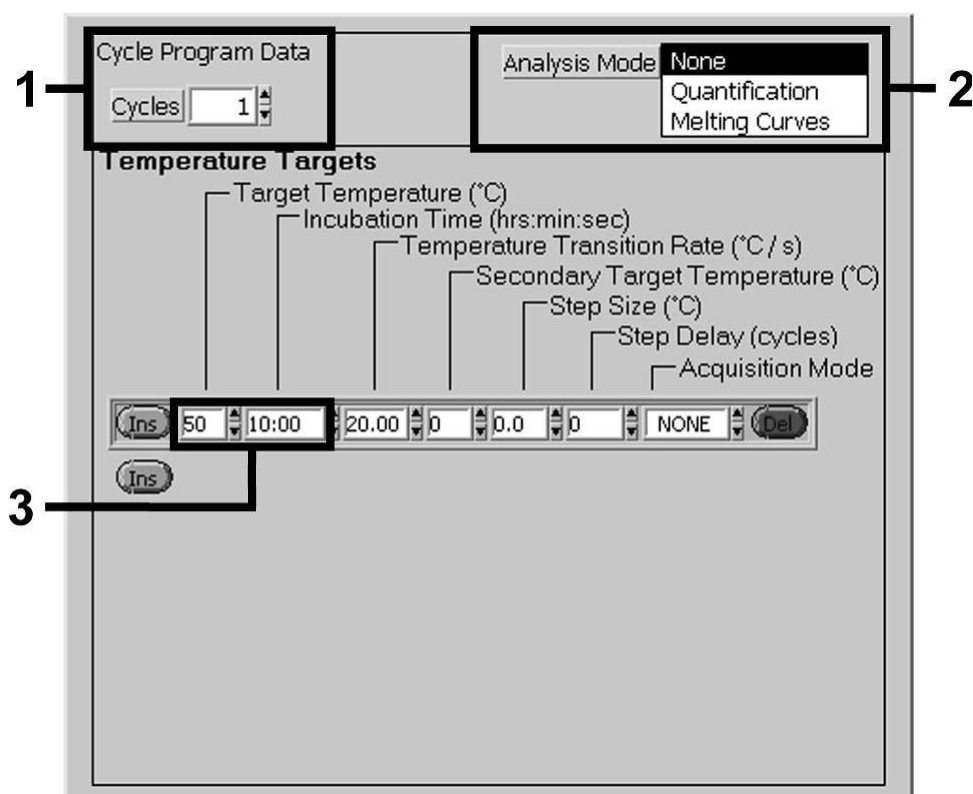

Figure 13. Reverse transcription of the RNA.
5. For the detection of influenza virus RNA, create a temperature profile according to the following 4 steps (see Figures 13–16).
Reverse transcription of the RNA	Figure 13